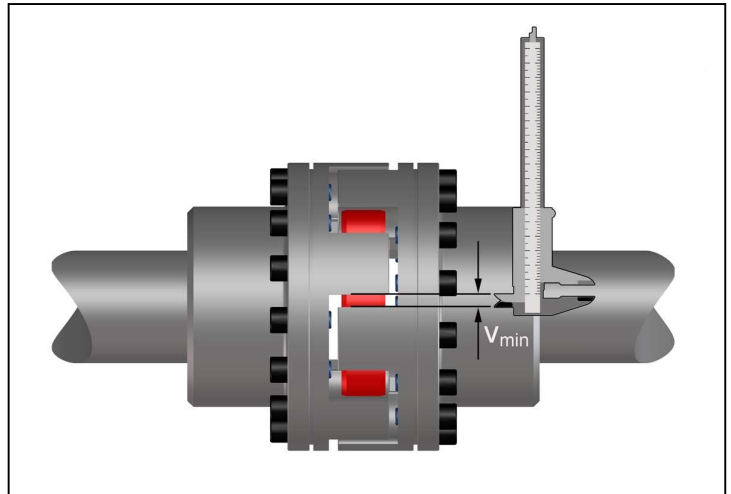

Fig. 12
- Measure the claw distance 'V' in circumferential direction across the buffers to which the claws rest on both sides (see fig. 12). The adjacent buffers do not contact the claws.